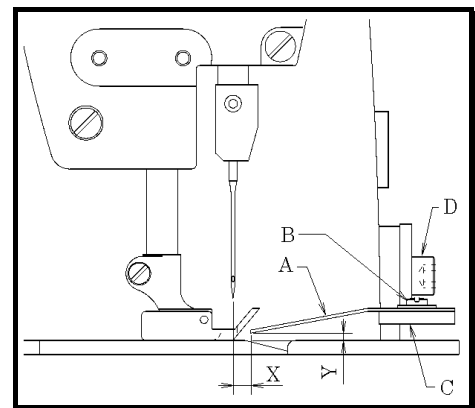

Fig 1
The height (Y) of low stripper blade A should be about 1~3mm from the surface of needle plate and then the fabric can be through the clearance (Y) by loosening screw D and move the bracket C to up or down. See the Fig 1. The clearance (X) between the needle and the tip of low stripper blade A should be about 4~5mm by loosening screw B and move A to front or back. See Fig 1.